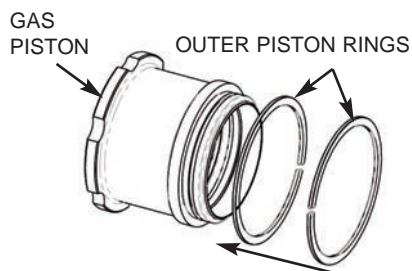

Figure 18B
For a gas piston assembly fitted with two outer piston rings and a retaining ring as shown in Figures 18B and 18C, follow the instructions below for gas piston re-assembly.
1. Slide the two outer piston rings onto the piston. Orient the slots 180 degrees apart as shown in Figure 18B.